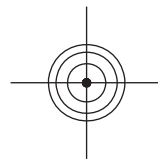

Figure 8-21 PRL to Optics Reference Target
4. Photocopy the PRL reference target (see Figure 8-21 on page 151) and secure the target to the glass so it will not move during the alignment.
3. If necessary, secure the copy of the PRL reference target (see Figure 8-21 on page 151) to the stage glass.